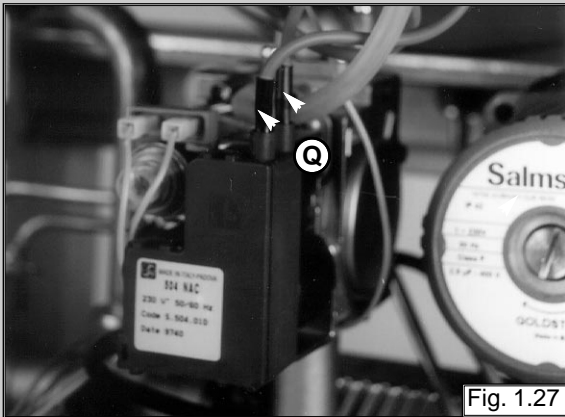

Fig. 1.27
1. Disconnect ignition leads "Q" by pulling upwards (see fig. 1.27);